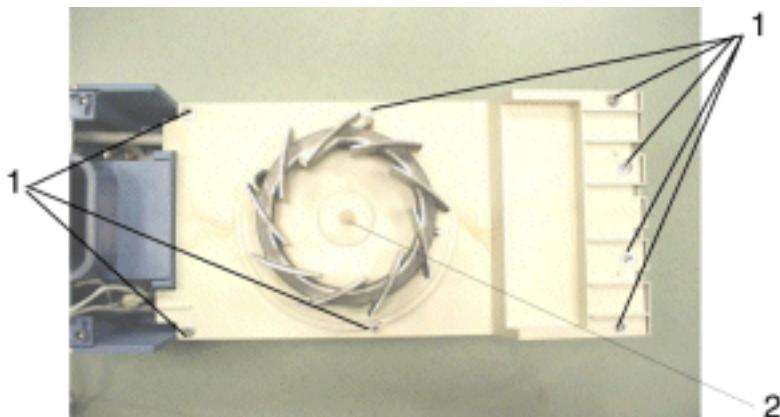

Fig. 169 Front view of the air heater
5. Carefully remove rubber sleeve (2) from shaft of fan motor, see Fig. 169.
6. Remove screws and washers (1), see Fig. 169.